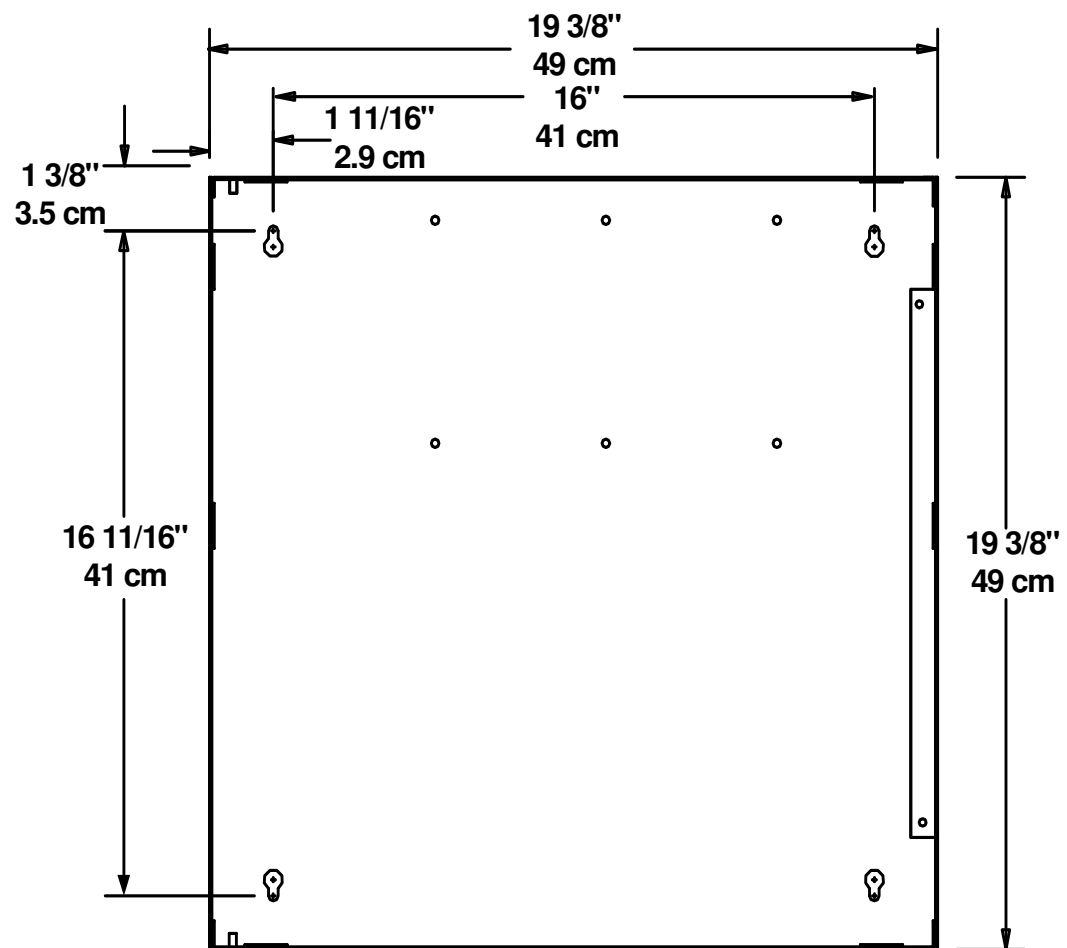

Figure 2.4.1 INCC-E Backbox Dimensions
1. Prepare the mounting site by pre-drilling for fasteners as needed using the dimensions shown in Figure 2.4.1. Mounting hardware should be #10 to 1/4" in diameter. Fasteners must be anchored into solid materials unless backed by studs or equivalent support.
Figure 2.4.1 illustrates the INCC-E backbox dimensions..